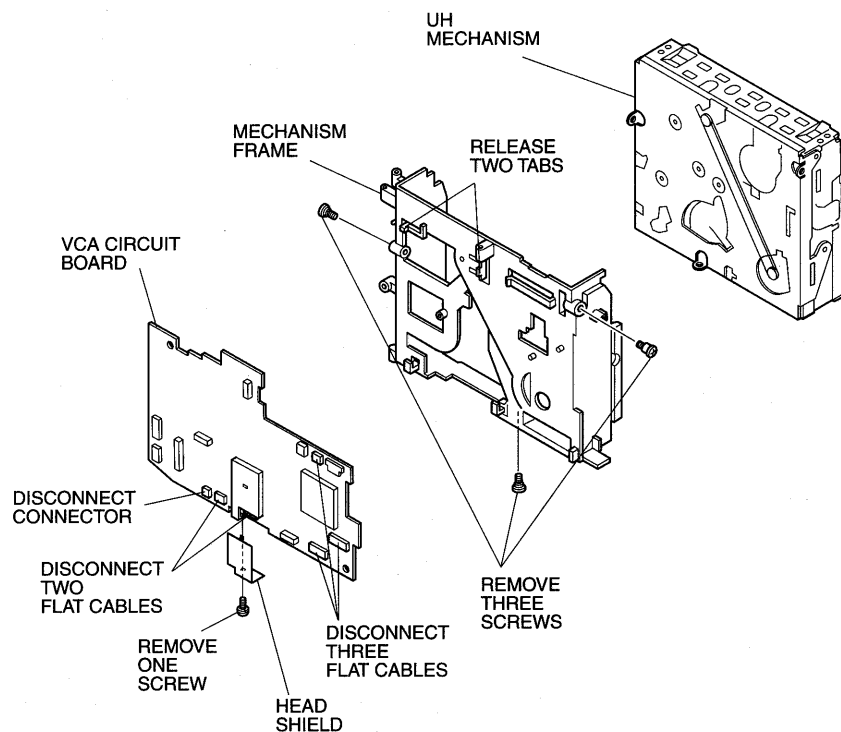

Fig. 2-7
2.7 VCA Circuit Board, Mechanism Frame, UH Mechanism (Fig. 2-7)
- (3) Remove the camera chassis assembly and rear unit. (See Fig. 2-7)